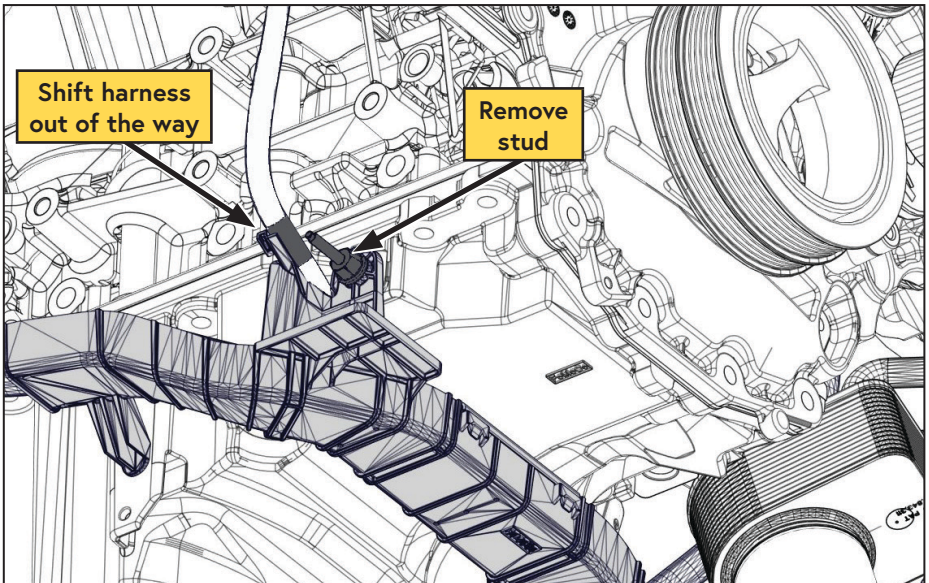

Figure 16 — Remove cable tray
- Remove and discard the stud securing the passenger side of the cable tray. Pull the tab off the mounting stud and push the wiring harness out of the way (Figure 16).